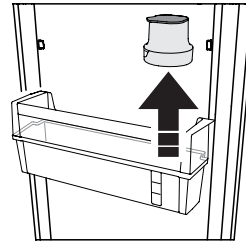

Fig 4
- Remove the filter from the balcony (Fig. 4);